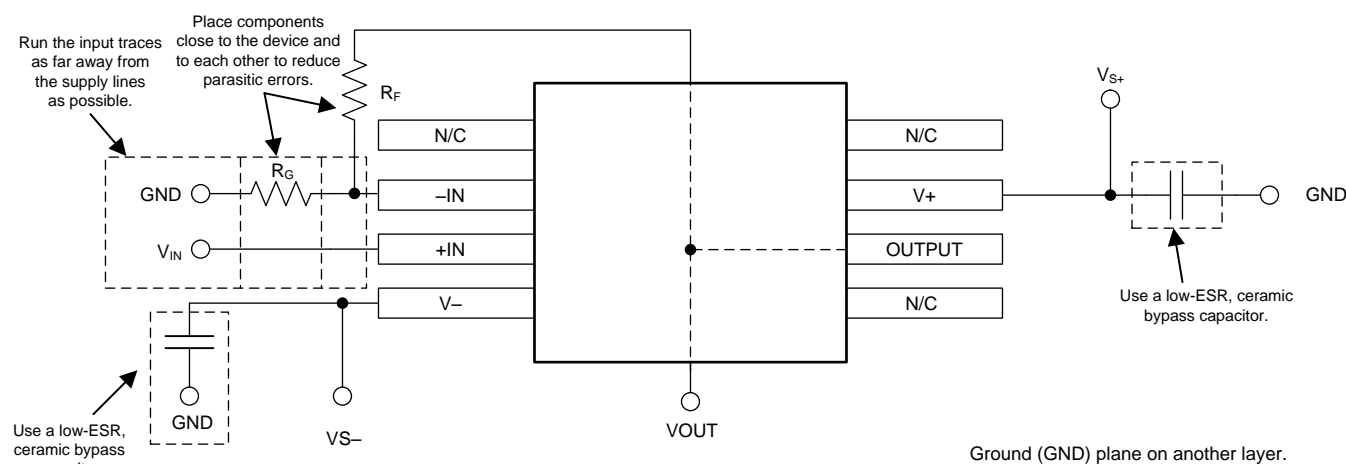

Figure 21. Operational Amplifier Board Layout for Noninverting Configuration
- Place the external components as close as possible to the device. Keep R_F and R_G close to the inverting input in order to minimize parasitic capacitance, as shown in Figure 21.